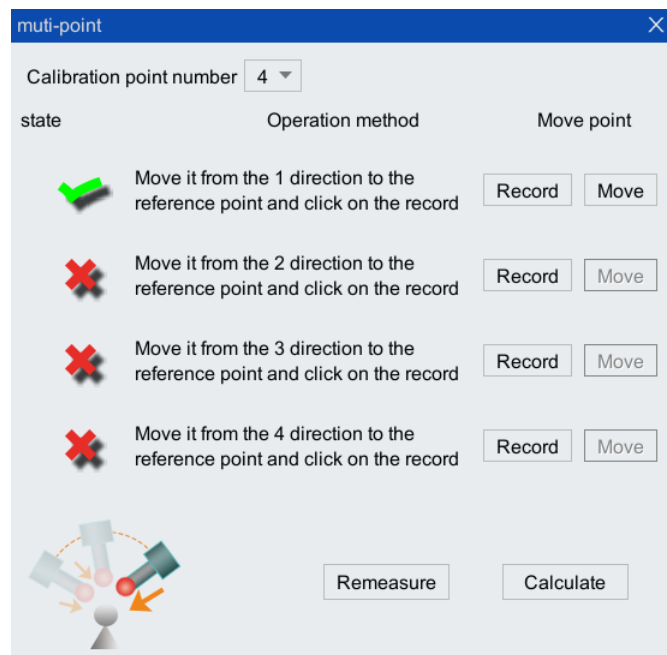

Figure 5-4 The interface status of 1 point successfully calibrated
Step4. Just follow the operation instructions in the figure to calibrate. After each point is successfully calibrated, the ✘ in front will change to ✔, as shown in Figure 5-4.